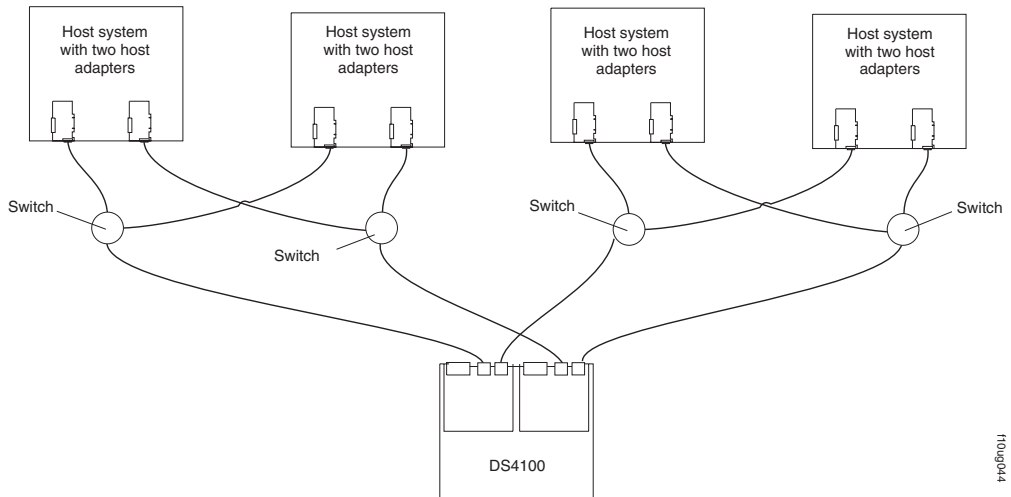

Figure 28. Example of a two-cluster configuration (base storage server)
- Two clusters, as shown in Figure 28 on page 40